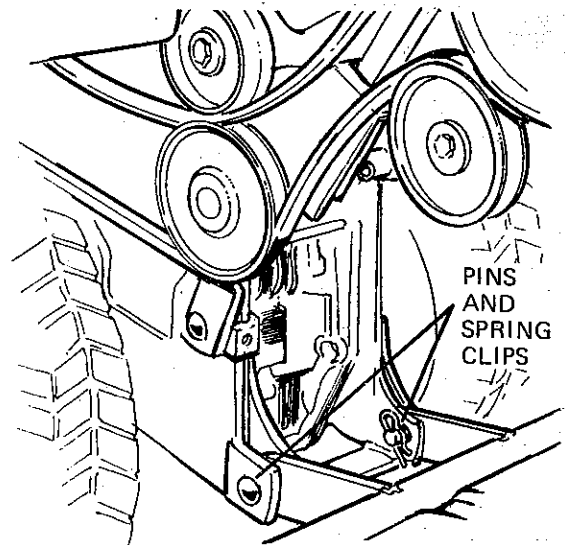

FIGURE 3
4. (See figure 3) Move the tractor lift to the raised position. Connect the revitalizer frame assembly to the tractor with 2 pins and spring clips.